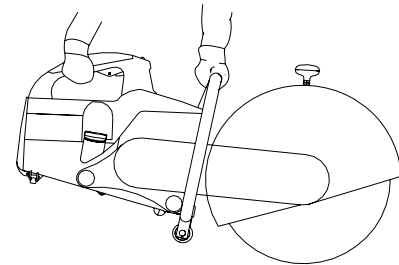

Fig. 3
1. Keep a good balance and secure footing while holding the saw firmly at all times. (Ref. Fig. 3)